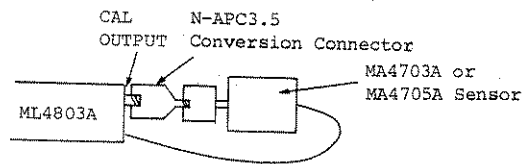

Fig. 7-3 MA4703A and MA4705A Sensitivity Calibration
- (1) Connect the MA4701A or MA4601A Sensor directly to the CAL OUTPUT connector.
- (2) Connect the MA4703A or MA4705A Sensor to the CAL OUTPUT connector through an N-APC3.5 Conversion Connector (Optional accessory) as shown in Fig. 7-3.